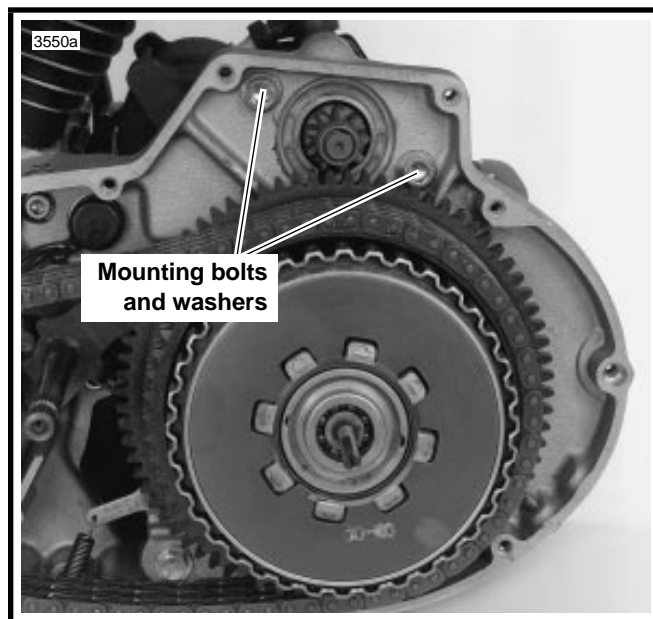

Figure 5-8. Starter Mounting
2. See Figure 5-8. Remove the starter mounting bolts and washers.